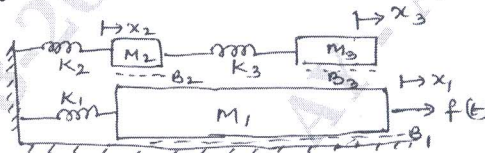

Fig. Q1 (b)
- b. For the mechanical system shown in the Fig. Q1 (b). Write the differential equation governing its behavior, draw its mechanical network and its electrical equivalent network using force current analogy. (10 Marks)